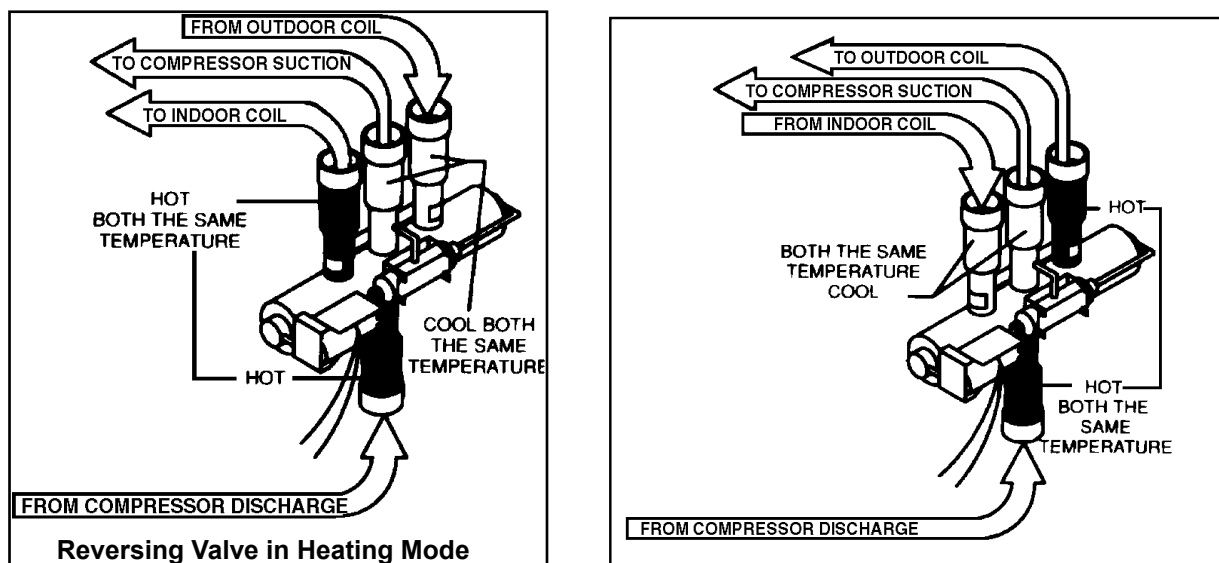

Figure 703 (Checking The Reversing Valve)
**NOTE:** If both tubes shown as hot or cool are not the same corresponding temperature, refer to figure 703, then the reversing valve is not shifting properly.